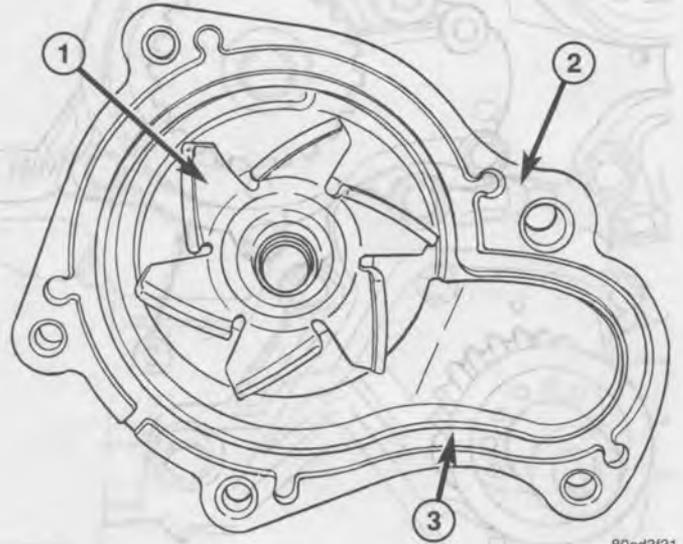

Fig. 46 Water Pump Body
(1) Install new O-ring gasket in water pump body O-ring locating groove (Fig. 46).